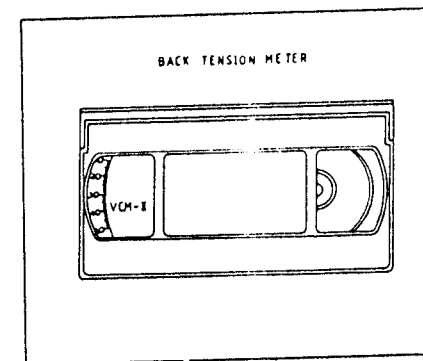

Fig. 2 Back Tension Meter
1. Remove the bottom cover. (See Fig. 2)
3-3. Back Tension Adjustment (Fig. 2)